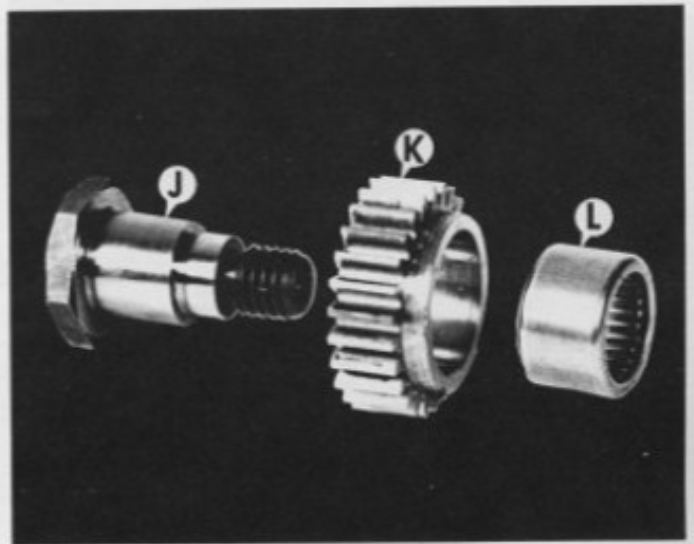

Figure 76 — Rack Gear, Stud and Bearing
5. Remove stud "J" and gear "K", Figure 75. Bearing "L", Figure 76, is pressed into gear "K".